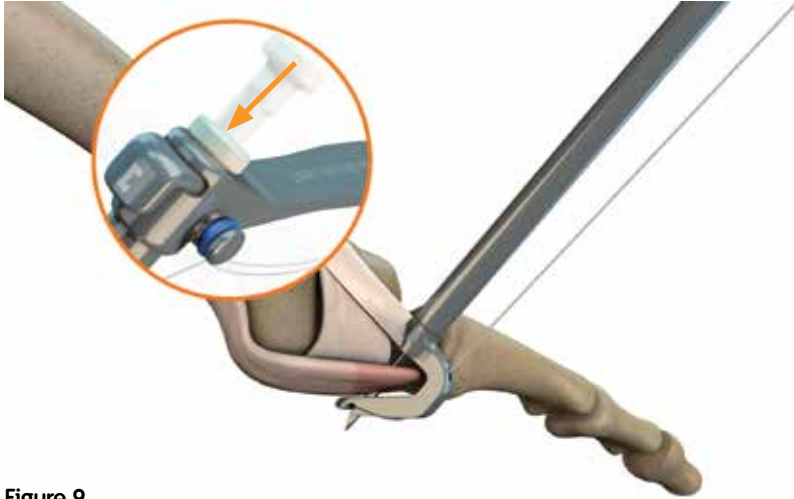

Figure 9
6. Hold the DART Suture Passer in its place, fully depress the spring-loaded needle, then slowly release it to engage the suture (Figure 9).